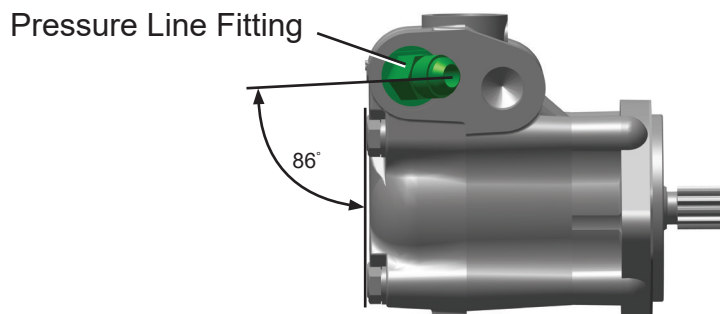

Figure 5
11. Install pump pressure line 45° fitting in new pump (A000H951). Final tighten fitting to 36 ft. lbs. and orient fitting as shown in Figure 5.